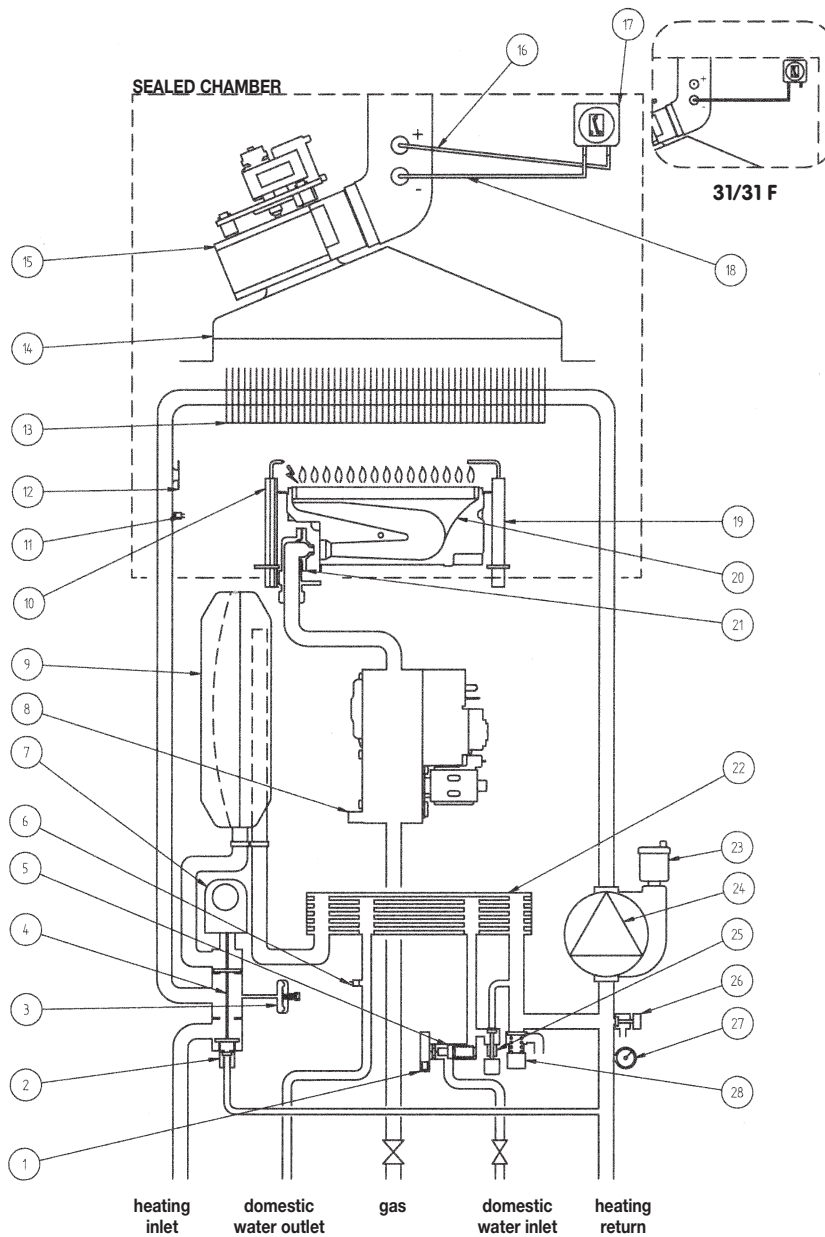

Figure 23
- remove the two screws (right in front of you) securing the DHW heat exchanger and pull it off its seat (figure 23).